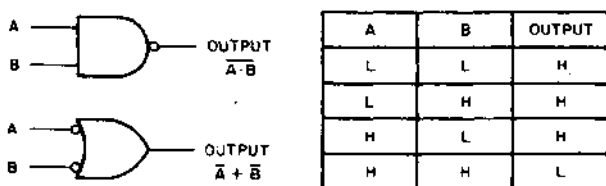

Figure 8 NAND Gate Logic Symbol and Truth Table
**NAND Logic Symbol:** Logic symbology used to describe M Series modules is based on widely accepted standards. Logic symbols and a truth table for the NAND gate are shown in Figure 8.